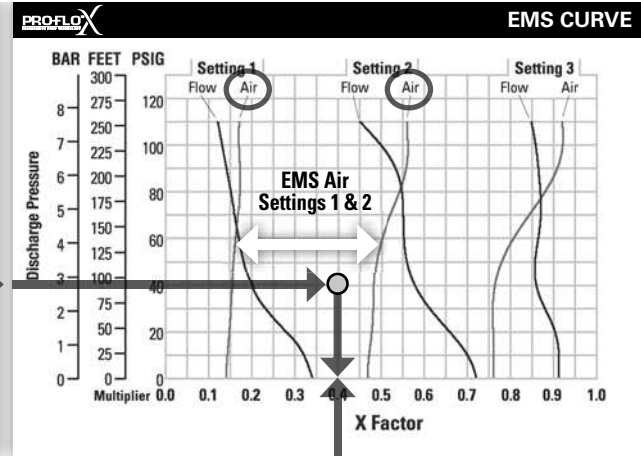

Figure 7
**Step 1: Determine air X Factor.** In order to determine the air X Factor, identify the two air EMS setting curves closest to the EMS setting established in example 2.1 (in this case, the point lies between the air curves for EMS setting 1 and 2). The point representing your EMS setting (1.8) must be approximated and plotted on the EMS curve along the horizontal line representing your discharge pressure (in this case, 40 psig). This air point is different than the flow point plotted in example 2.1. After estimating (or interpolating) this point on the curve, draw a vertical line downward until reaching the bottom scale on the chart and identify the air X Factor (figure 7).